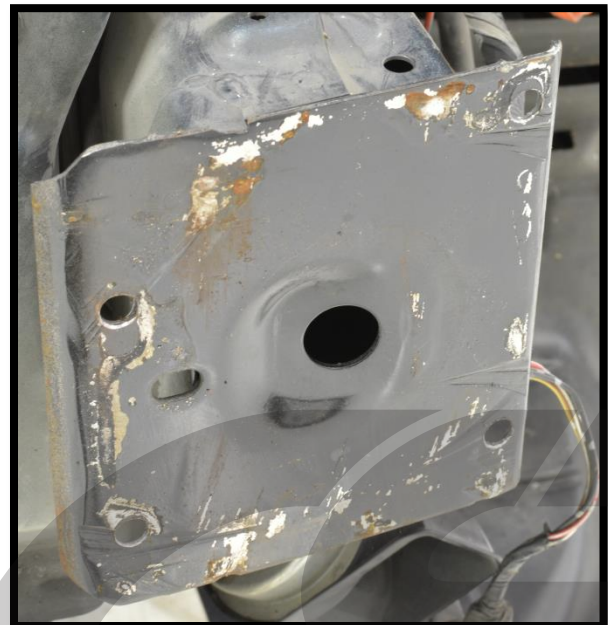

Figure 6a
- a) Grind/file remaining weld smooth. This ensures a good mounting surface for the CorkSport Crashbar. See Figure 6a.